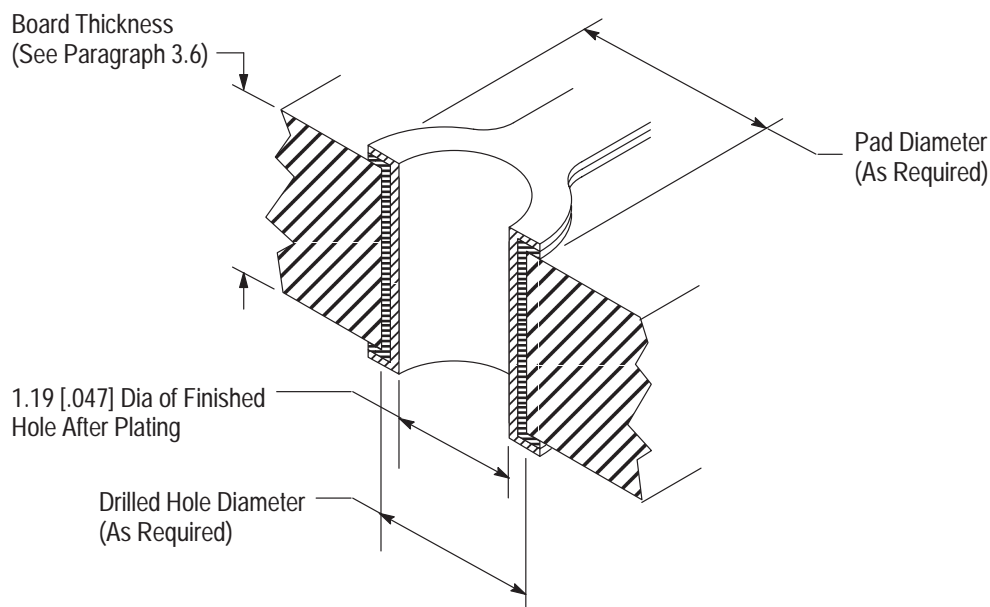

Figure 7
- Changed artwork in Figure 7
These connectors may be used with or without plated through holes. If plated, the drilled hole size plating types and plating thickness are dependent on your application requirements. The finished hole size must be as stated to provide unrestricted insertion and ensure adequate application of solder to the tines. See Figure 7.